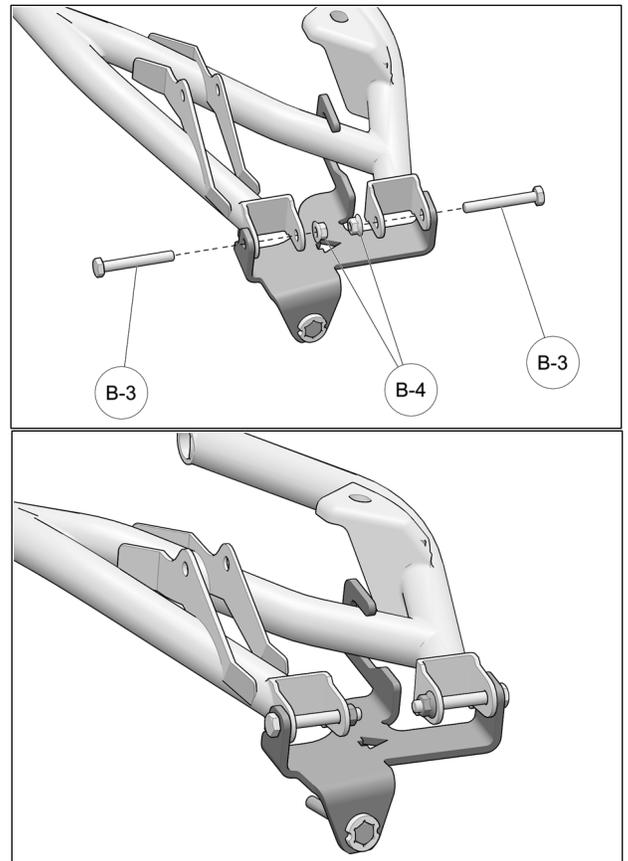

Fig. 8
8. Insert the new M10x75mm bolts (B-3) in the anchor bracket, through the lower suspension arm and wheel hub. Secure assembly using the new M10 nuts (B-4) provided. Tighten bolts to 70 N•m [52 lb•ft]. See Fig. 8